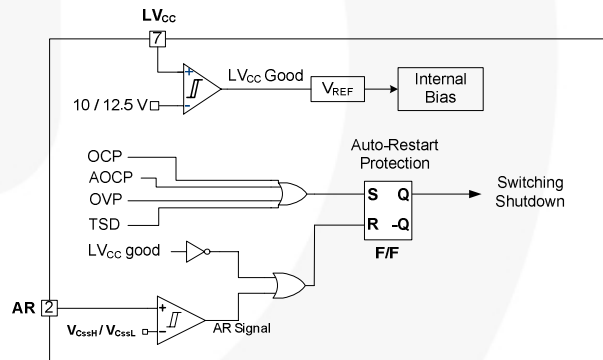

Figure 22. Protection Blocks
**5. Protection Circuits:** The FLS-XS series has several self-protective functions, such as Over-Current Protection (OCP), Abnormal Over-Current Protection (AOC), Over-Voltage Protection (OVP), and Thermal Shutdown (TSD). These protections are auto-restart-mode protections, as shown in Figure 22.